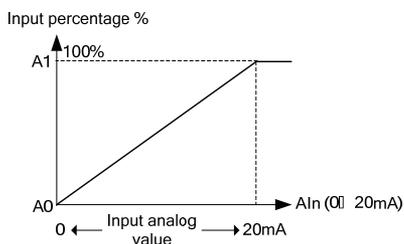

Figure6-20 Percentage of input analog value (current)
- ◆ When current analog value input is selected, please refer to Figure6-20.